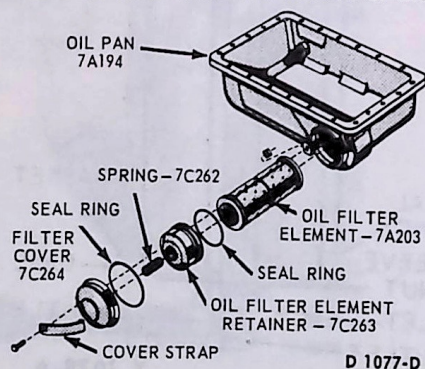

FIG. 159 Transmatic
2. Loosen, but do not remove, the screw which secures the filter cover to the transmission pan (Fig. 159).
4. Install a new filter. Install a new retainer seal ring, filter retainer, a new cover seal ring, cover and strap. Tighten the strap attaching screw (Fig. 159).